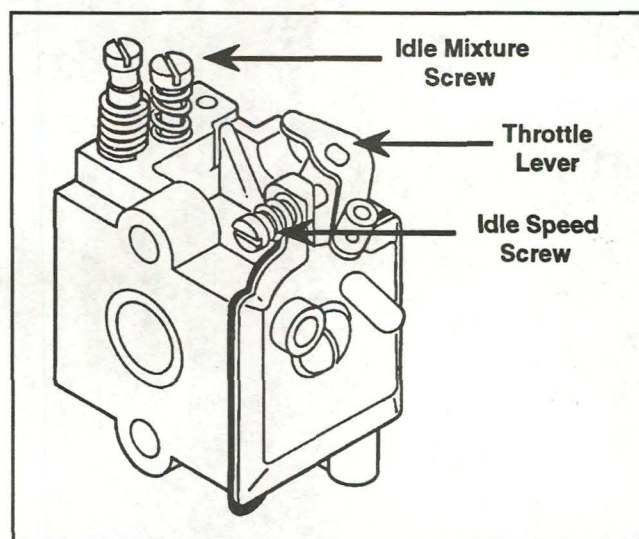

Fig. 32
2. **Initial Idle Speed Setting** - Back the idle speed screw **counterclockwise** (Fig. 32) out until it *does not contact* the carburetor throttle lever. Then turn the screw in, **clockwise**, until it *begins to move* the throttle lever; then continue turning **2 full turns**.
3. **Initial Idle Mixture Setting:** Turn the idle mixture screw **clockwise** (Fig. 32) until it is *lightly seated*. Then turn the screw **counterclockwise 1-1/2 turns**.